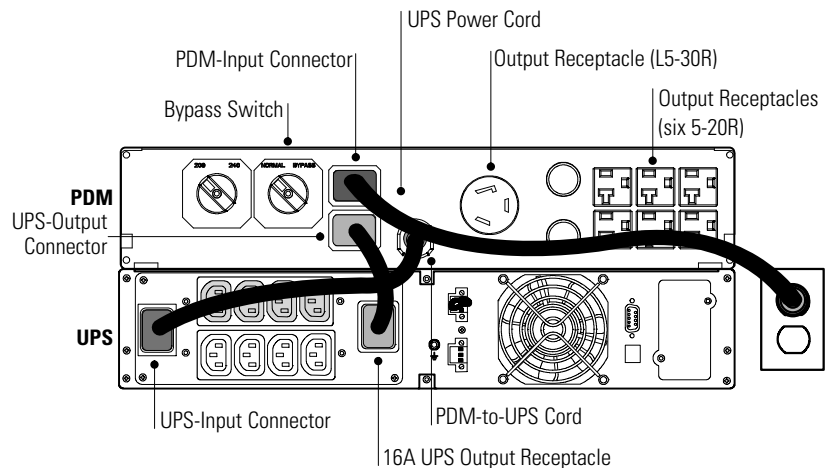

Figure 6. Typical High-Voltage Installation [PDM1-HV-US-P2 (EPPDMG3000R-2U-1) Shown]
1. Verify that the Bypass switch on the PDM is in the NORMAL position (see Figure 6).
5. High-voltage models: Disconnect the jumper cable from the 16A output receptacle on the UPS rear panel. See Figure 6 on page 16.